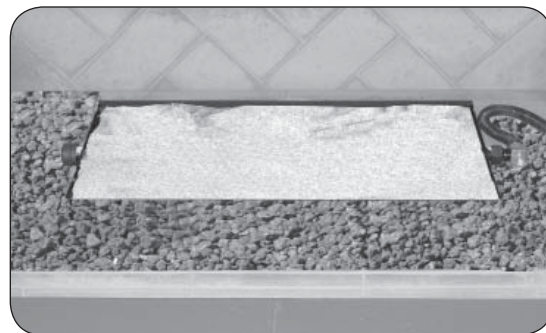

Fig. 11-1 Place sand/vermiculite
1. Fill the burner pan completely with the sand/vermiculite (see Fig. 11-1).